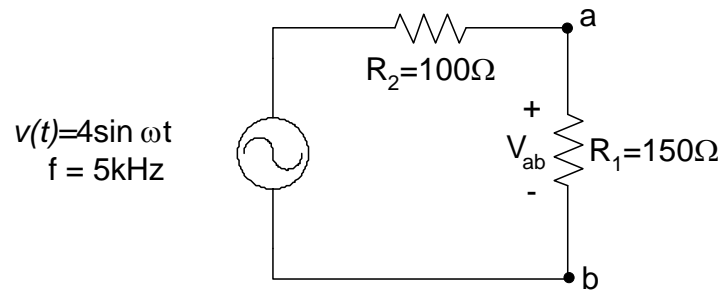

Figure 2: Measurement of RMS voltage
19. Connect the hardwired circuit shown in Fig 2. Measure the amplitude (peak value) of voltage  $v_1$  using the **Oscilloscope** and record it.